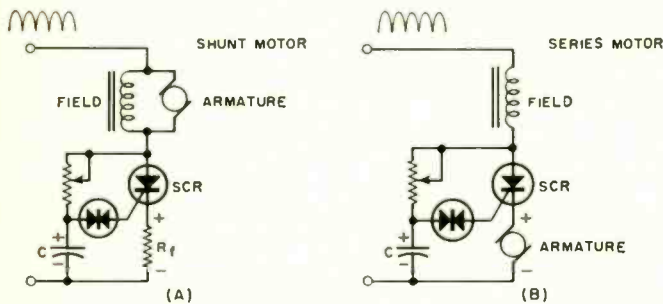

Fig. 6. Techniques using feedback for constant motor speed.
Two typical circuits are those of Fig. 6. (A) shows a resistor  $R_f$  in series with the SCR whose voltage drop adds to the normal 30 volts to which the timing capacitor  $C$  must charge. As the load varies, the drop across  $R_f$  follows, producing a feedback voltage according to Ohm's Law.  $R_f$  must be a high wattage unit since the total load power flows through it. Fig. 6B replaces resistor  $R_f$  with the armature of the motor. This is only applicable to series motors. The  $IR$  drop of the armature is directly proportional to motor current which, in turn, is directly proportional to the mechanical load. This  $IR$  drop forms the correction voltage which is again used to shift the turn-on time to maintain constant speed. There are considerably more elegant schemes for providing constant torque or constant speed, but these two simple methods are indicative of the general principles behind all controls of this type. These circuits are usually unilateral.